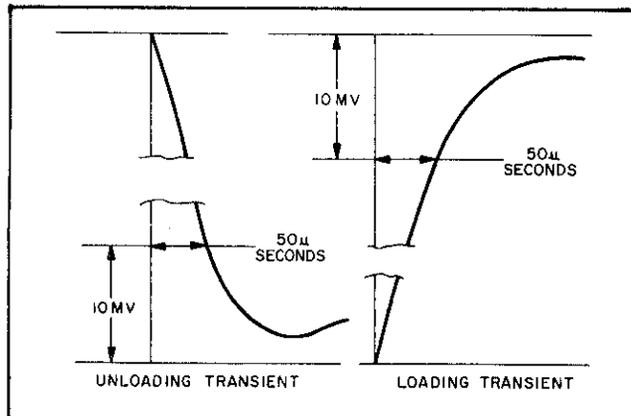

Figure 5-8. Transient Recovery Time, Waveforms
j. Starting from the major graticule division representative of time zero, count to the right 50 μ sec and vertically 10mV. Recovery should be within these tolerances as illustrated in Figure 5-8.